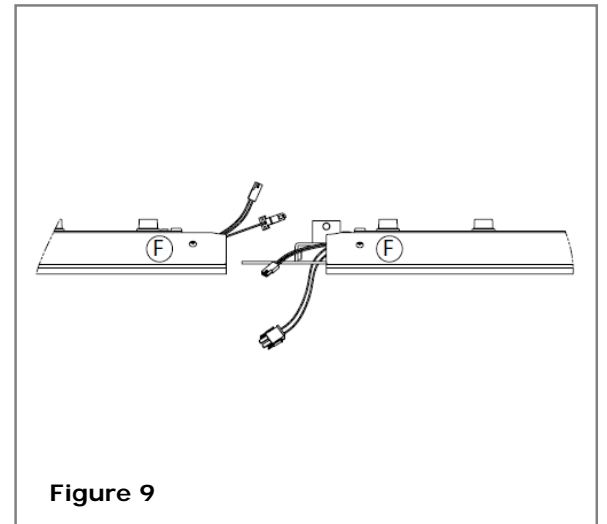

Figure 9
2. Ensure that the two segments to be connected have matching labels, for example, F to F. Align the two segments end to end. **See Figure 9.**